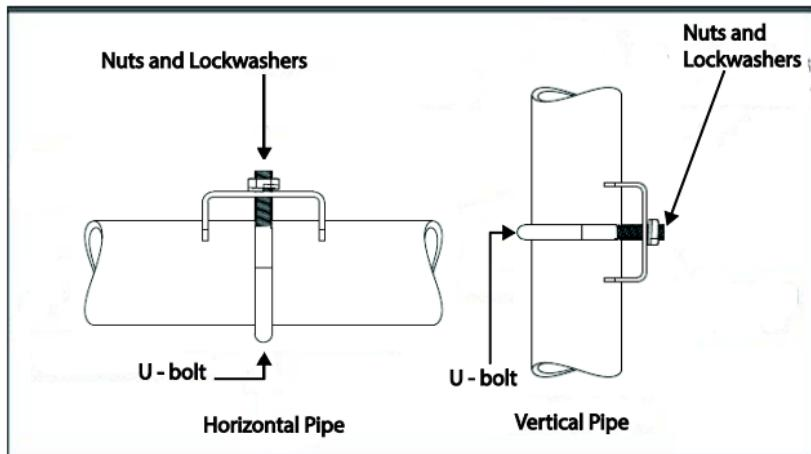

Figure 2: Pipe Mounting Bracket Secured to a Horizontal or Vertical Pipe
1. Align the two mounting holes in the transmitter with the two slots in the mounting bracket and assemble the (2) M8 hex cap screws, (2) lockwashers and (2) flat washers provided. Rotate transmitter assembly to the desired position and torque the M8 hex cap screws to 27,0 Nm/20,0 Lb·ft maximum.
2. Pipe Mount Option: Refer to Figure 2. Position the bracket on a 2-inch (50.8 mm) horizontal or vertical pipe, and install a "U" bolt around the pipe and through the holes in the bracket. Secure the bracket with the nuts, flat washers and lock washers provided.
Optional mounting bracket, see Figure 2
Existing mounting bracket, see Figure 2